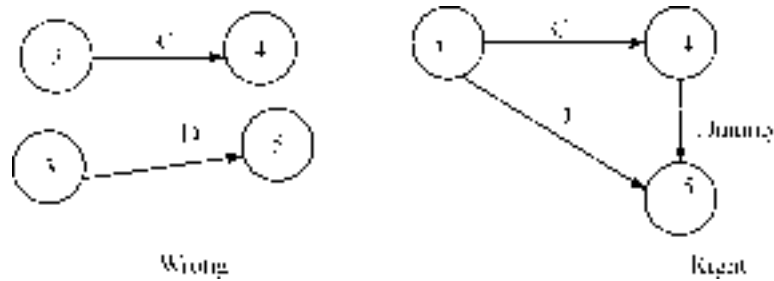

Figure 15.7. Use of Dummy activity.
- (e) When two activities start at the same event and end at the same event, they should be shown by means of a **dummy activity** as in figure 15.7. Dummy activity is an activity, which simply shows the logical relationship and does not consume any resource. It should be represented by a dotted line as shown. In the figure, activities *C* and *D* start at the event 3 and end at event 4. *C* and *D* are shown in full lines, whereas the dummy activity is shown in dotted line.